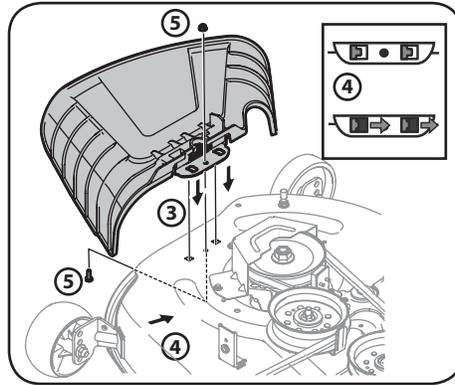

Figure 2-5
3. Place the chute deflector on the deck, be sure to insert the tabs on the chute deflector into the holes on the deck. See Figure 2-5.
4. When the tabs are installed in the deck, slide the chute deflector toward the rear of the tractor until the bolt hole in the chute deflector aligns with the hole in the deck. See Figure 2-5.
5. Secure the chute deflector in place with the flange lock nut and hex screw removed in step 2. Tighten to 102-124 in-lbs. See Figure 2-5.